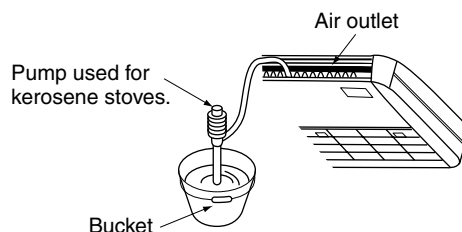

Fig. 25
- Add 600 cc of water in the drain pan from the air outlet for confirming drainage. **(Refer to Fig. 25)**